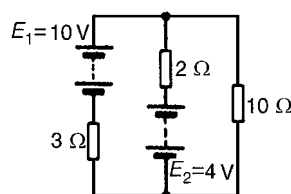
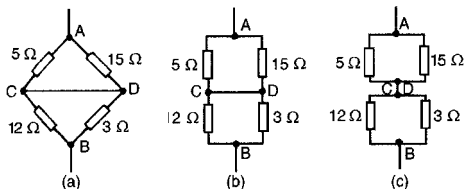

Figure 13.26
Figure 13.34
- 3 Use the superposition theorem to find the current in each branch of the network shown in Fig. 13.26
- (viii) In Fig. 13.34(a), to find the equivalent resistance across AB the circuit may be redrawn as in Figs. 13.34(b) and (c). From Fig. 13.26(c), the equivalent resistance across